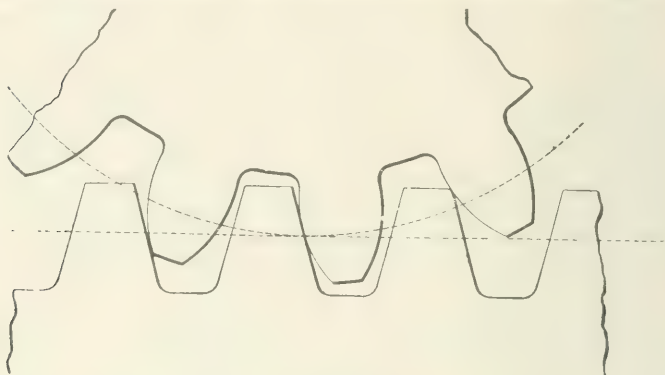

FIG. 26.
52. Involute Teeth.—In Fig. 26 is shown the involute form of tooth, which is composed of but one curve.
The **involute** is the path described by any point of a string that is being wound on or off a cylinder, the cylinder being stationary. In the involute system, the sides of the teeth of the rack are straight lines, as shown in Fig. 26.